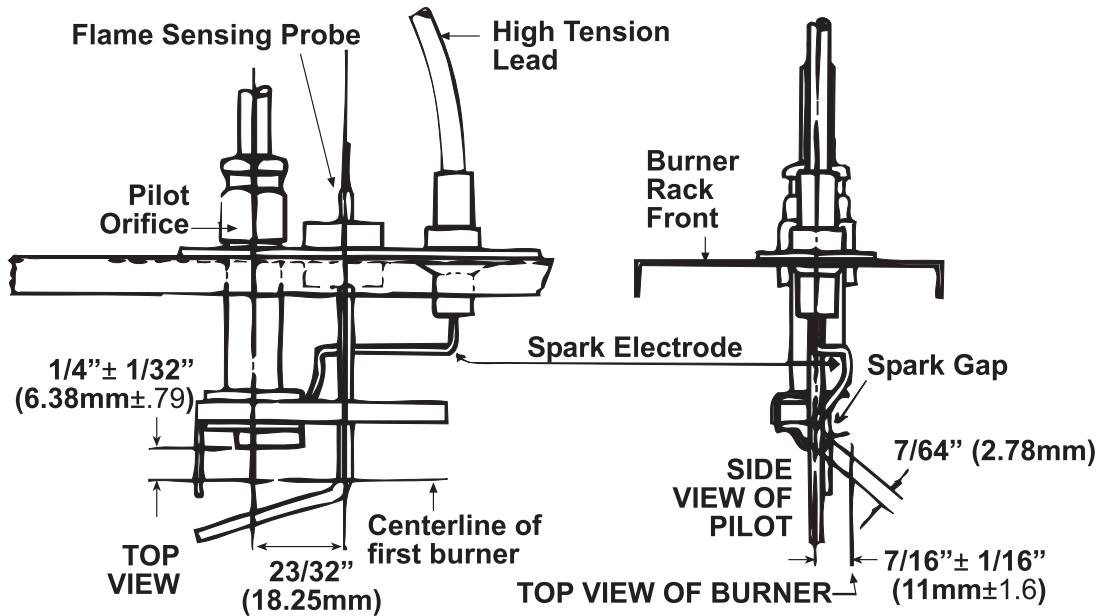

Figure 28. Pilot Assembly Spark Gap
4. Check the spark gap (see Figure 28), which should be maintained to 7/64 inch.
- c. Verify that pilot spark gap (see **Figure 28**) is approximately 7/64 inch.